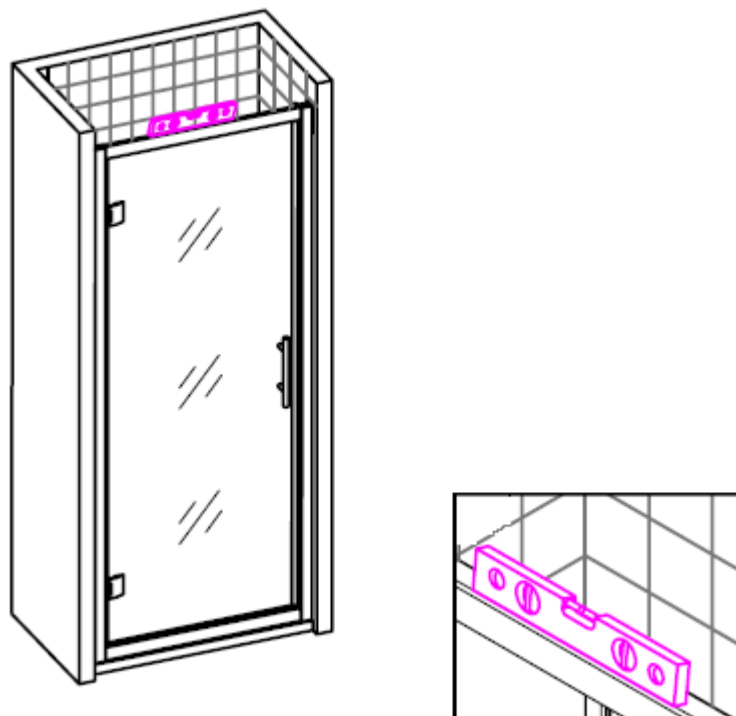

Figure 6
6. Test the rail profile(Z6B6) to be horizontal,as showed in figure 6.